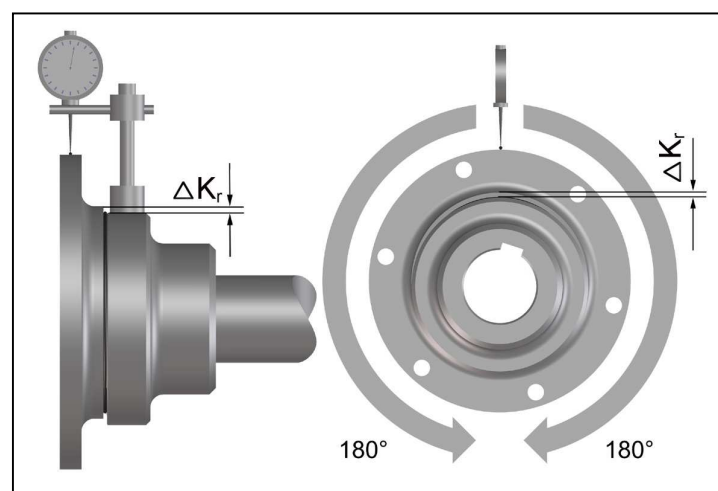

Fig. 8
- Measure a complete rotation (360°). Determine in this case the greatest deviation ΔK_{r1} as well as the smallest deviation ΔK_{r2} (Figure 8).